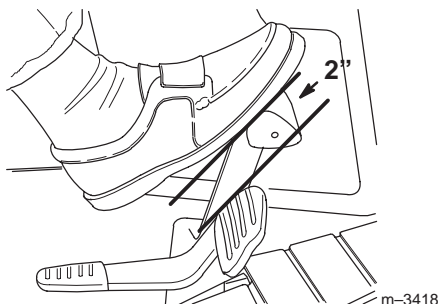

Figure 36
3. Depress the brake pedal. There should be 2” (51 mm) of free travel (Fig. 36) before the brake begins to engage.